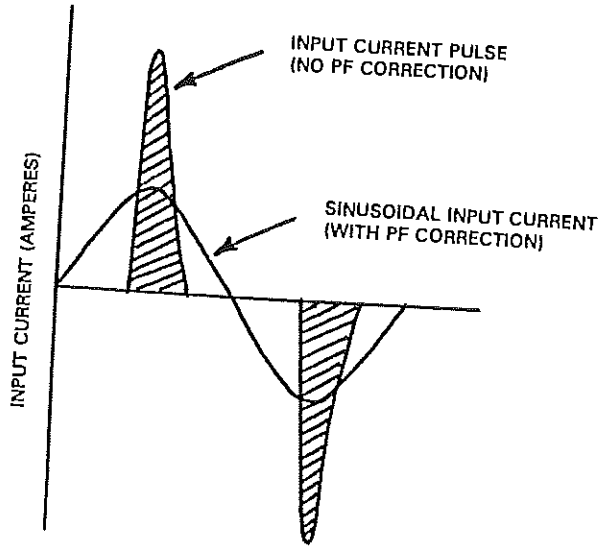

Figure 3. Input Current Waveforms Before and After High Frequency Power Factor Correction.
5.2 **Power Factor Correction.** For power factor corrected models the AC Input Module incorporates a high-frequency, zero-voltage switching power-factor correction circuit to give a 0.99 power factor. This circuit modifies the input current waveform from a series of high amplitude current pulses to a much lower amplitude sine wave. This substantially reduces the harmonic content of the input current to the power supply. See Fig. 3.